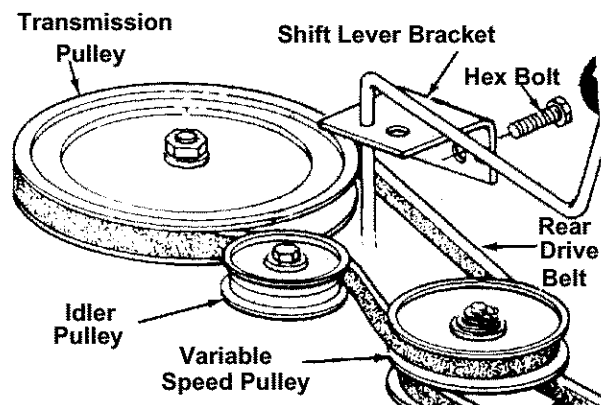

Figure 25
- Push the idler pulley toward the right side of the unit. Lift the belt over the idler pulley. See Figure 25.
- Remove the two bolts which hold the shift lever bracket to the frame on the left side of the unit. Swing the bracket toward the right so the belt can be removed from the transmission pulley. See Figure 25.